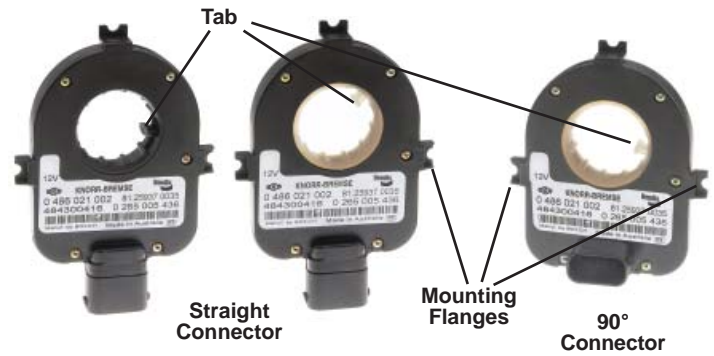

FIGURE 1 - EXAMPLES OF STEERING ANGLE SENSORS
1. Slide the sensor over the column, following the arrangement used for the original, including the direction that the label faces. **The center tab of the sensor (see Figure 1) must be aligned with the corresponding notch in the column.**